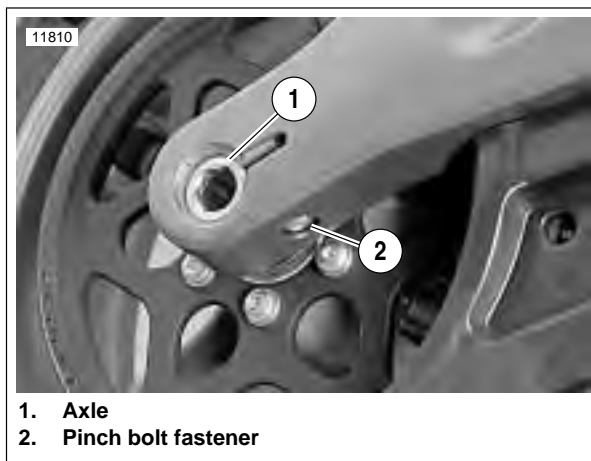
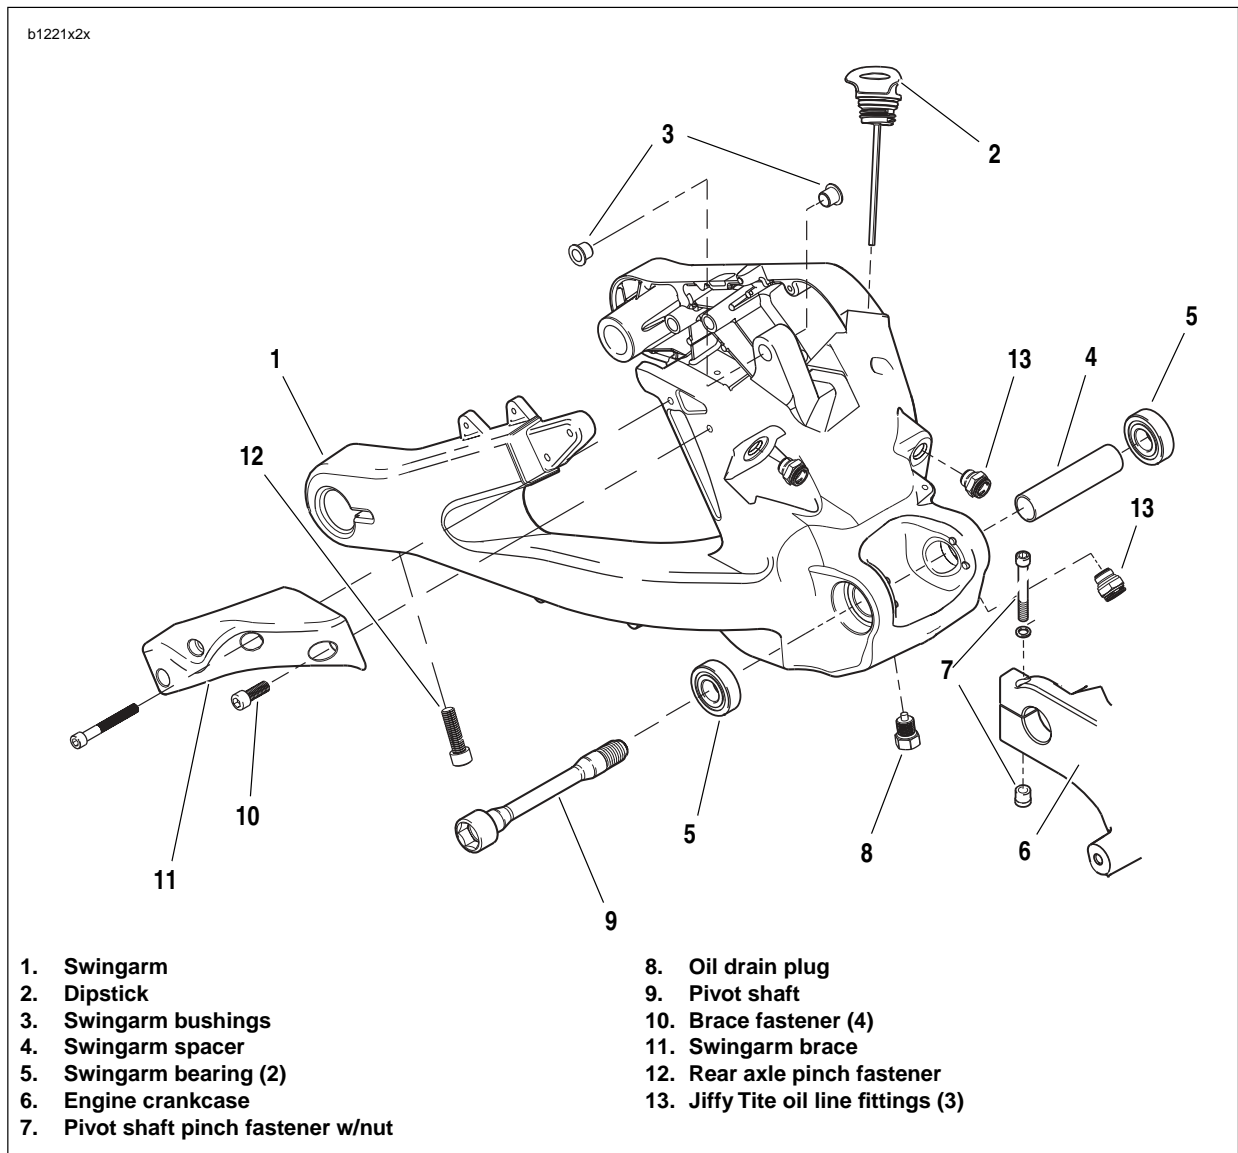

Figure 2-81. Rear Wheel Mounting, Right Side (XB12Ss)
Figure 2-84. Swingarm Assembly
2. See Figure 2-81. Loosen rear axle pinch fastener (2).
3. Loosen rear axle (1) approximately 15 rotations to allow partial tension to be removed from rear drive system.
4. See Figure 2-84. Remove swingarm brace mounting fasteners (10).
5. Remove swingarm brace (11).
3. See Figure 2-84. Remove oil drain plug (8) and drain oil from swingarm. See Draining Oil in 1.5 ENGINE LUBRICATION SYSTEM.
11. See Figure 2-84. Loosen pivot shaft pinch fastener (7).
12. Remove pivot shaft (9) with a special 7/8 in. hex tool located in tool kit.
2. See Figure 2-84. Remove swingarm bearings (5) using slide hammer (SNAP-ON Part No. CJ1275 or equivalent) and 3/4 in. bearing remover and spacer.
3. Remove shock mount bushings (3) and sleeve.
See Figure 2-84. Remove swingarm bearings (5) only if replacement is required. The complete bearing assembly must be replaced as a unit when replacement is necessary. Do not intermix bearing components.
1. See Figure 2-84. Install **new** shock mount bushings (3).
2. Install **new** bearings (5) and spacer (4) with BEARING INSTALLER (Part No. HD-44060) by lightly seating spacer.
4. See Figure 2-84. Install drain plug (8). Tighten to 26-29 ft-lbs (35-39 Nm).
1. See Figure 2-84. Align swingarm (1) in pivot of engine crankcase (6).
2. Install pivot shaft (10) with a special 7/8 in. hex tool located in tool kit, ANTI-SEIZE and tighten to 24-26 ft-lbs (32-35 Nm).
3. Apply LOCTITE 271 (red) to pivot shaft pinch fastener (7) and tighten to 17-19 ft-lbs (23-26 Nm).
2. See Figure 2-84. Install swingarm brace (11) with swingarm brace mounting fasteners (10) loosely. Do not tighten.
3. Apply LOCTITE 271 (red), install and tighten swingarm brace fasteners (10) to 25-27 ft-lbs (34-37 Nm).
5. Tighten rear axle pinch fastener (12) to 40-45 ft-lbs (54-61 Nm).